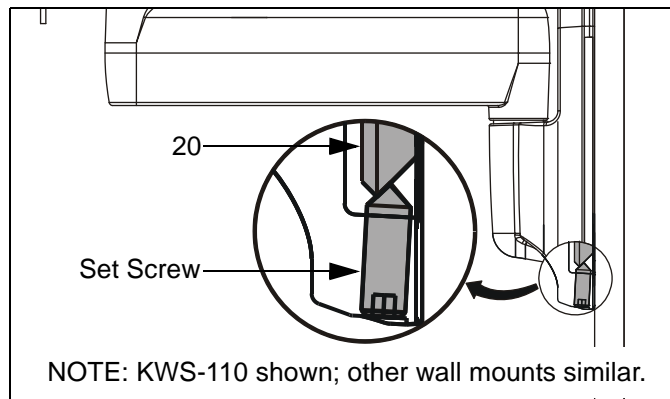

Figure 3: Tighten Set Screw
- Tighten set screw using 5/32" hex key (See Figure 3). Ensure set screw engages *back* side of bracket (20) to properly secure mount.